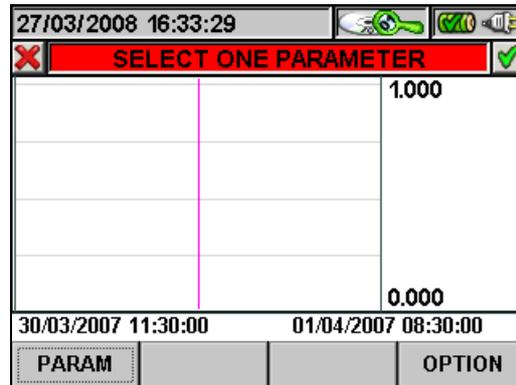

Fig. 156: Selecting a parameter
- The **ESC** key (or smart icon) to exit the function and go back to the “Selecting a parameter” page (Fig. 156).
- The **ESC** key (or smart icon ) to exit the function and go back to the “Selecting a parameter” page (Fig. 156).
3. Press the **ESC** key (or the smart icon ) to exit the function and go back to the “Selecting a parameter” page (Fig. 156).